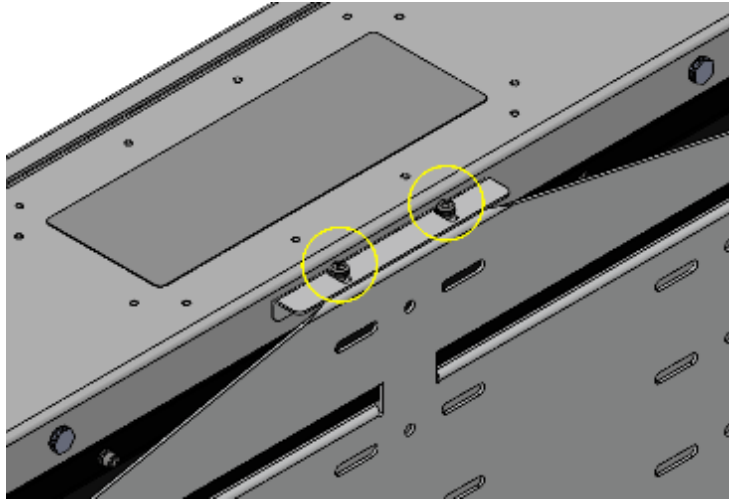

Figure 5 - Top fixing bracket
2. Secure the wall bracket to the top of the enclosure with the 2x supplied M6 screws as per Figure 5.
10. Secure the wall bracket to the top of the enclosure with the 2x supplied M6 screws as per Figure 5.